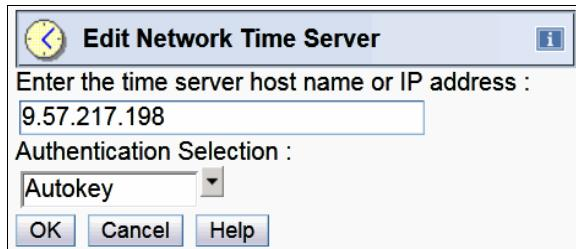

Figure 8-24 Edit Network Time Server for Autokey
In this example (see Figure 8-24), we modify the existing NTP server 9.57.217.198 to use Autokey configuration.
- The Edit Network Time Server window opens (Figure 8-24). Select **Autokey** under Authentication Selection, and then click **OK**.